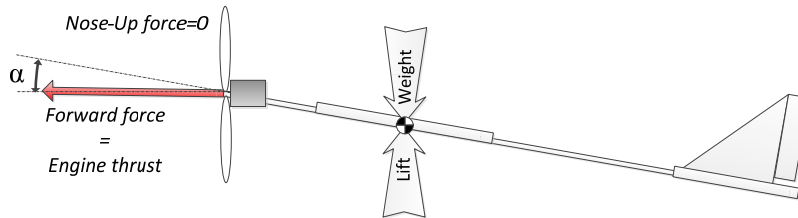

Fig 2. Use down thrust on the engine.
1. Mount the engine with down thrust to avoid nose-up force (Fig 2). We have tried this solution and Neil feels it flies better but still not perfect due to we had not optimized the amount of down thrust so the Nose-Up force was not totally eliminated. But this solution has a problem: When the plane flies inverted, she will be super tail heavy, since that Nose-Up force will be even worse than the straight-mounted engine configuration.